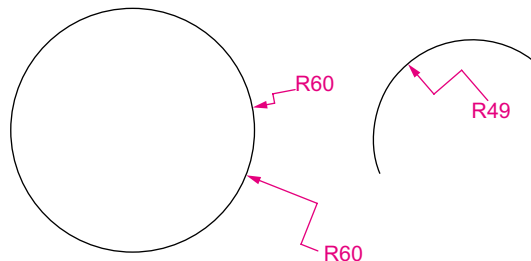

Fig. 6.16 Examples – the Jogged tool
## The Jogged tool (Fig. 6.16)
1. Draw a circle and an arc as indicated in Fig. 6.16.
The results of placing as jogged dimension on a circle and an arc are shown in Fig. 6.16.